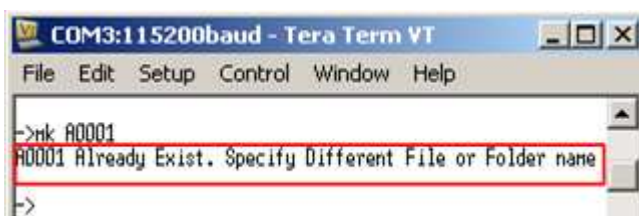

Figure 3-12 Error from exist name in directory
- (2) Error from directory name already exist in current directory, as shown in Figure 3-12